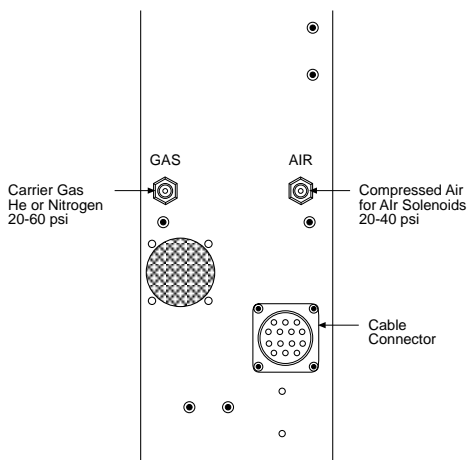

Fig 3.15 Schematic shows the location of the gas inlets on the rear of the S.P.T.D. unit.
14. The back of the S.P.T.D. unit has two 1/8" Swagelok™ fittings for connection of the carrier gas and the air which is used to operate the S.P.T.D. system. They are labeled “GAS” for the carrier gas and “AIR” for the compressed air. See **Figure 3.15**.